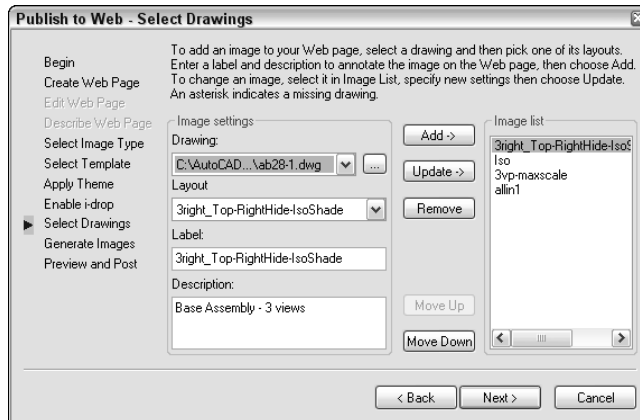

Figure 28-10: On the Select Drawings screen, add each drawing that you want to include on the Web page, and specify a layout, label, and description for each.
8. On the Select Drawings screen, shown in Figure 28-10, choose the drawings that you want to publish. If the drawing is open, you can select it from the Drawing drop-down list. Select each drawing, choose a layout (or model) from the Layout drop-down list, type a label, and type a description to appear on the Web page. Then click Add. (If the drawing is not open, click the ellipsis button, navigate to the drawing, and click Open. Enter a label and description and then click Add.) Click Next.